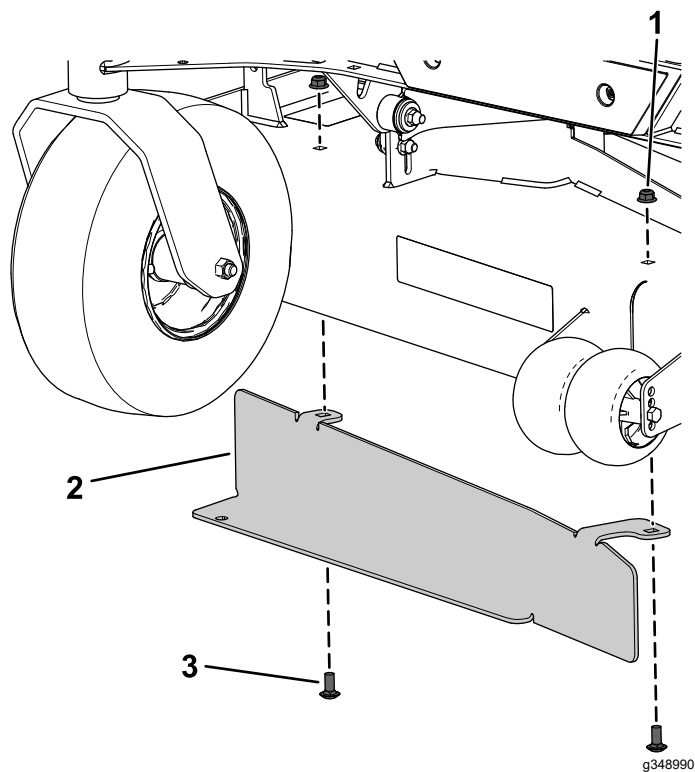
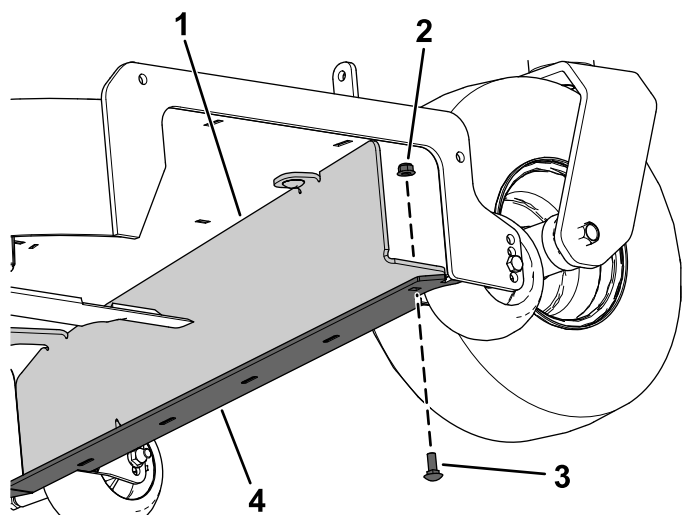

Figure 4
Figure 5
- Install the bagger baffle to the mower deck and deck bumper using 2 carriage bolts ($3/8 \times 7/8$ inch), 2 locknuts ($3/8$ inch), 1 carriage bolt ($5/16 \times 7/8$ inch), and 1 locknut ($5/16$ inch) as shown in Figure 4 and Figure 5.